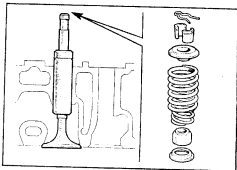

Fig. 15 - Assembly of valve and springs
7. Place the valves in their respective seats in the cylinder head, fit the bottom collars and then fit new oil seals to the valve stems. Re-assemble the remaining components, as shown in Fig. 15.